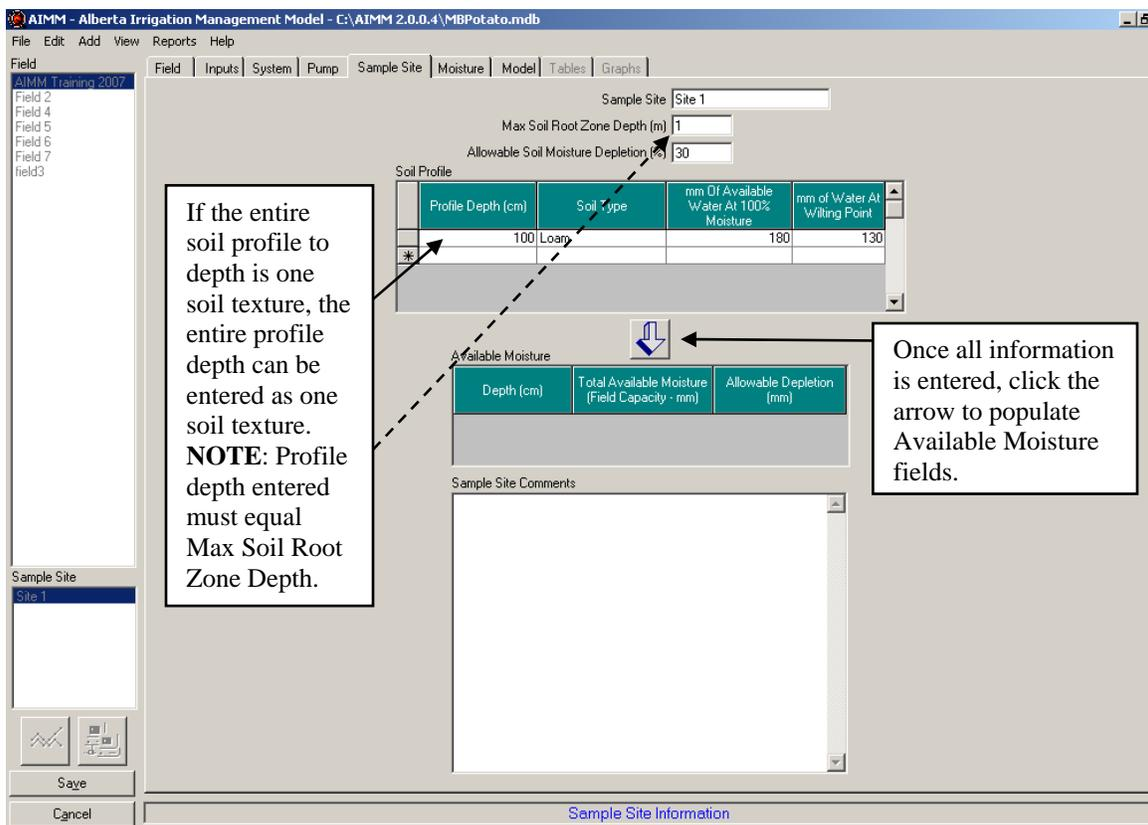

Figure 32. Example of only one soil texture for entire soil profile under "Sample Site" tab.
- **Important:** The sum of the profile depth values must equal the 'Max. Soil Root Zone Depth' (e.g. 5*20 cm profile depths = 1.0m). The profile depth column can be detailed for individual soil layers, or can have a single depth with the same soil texture for the entire soil profile (Figure 32).